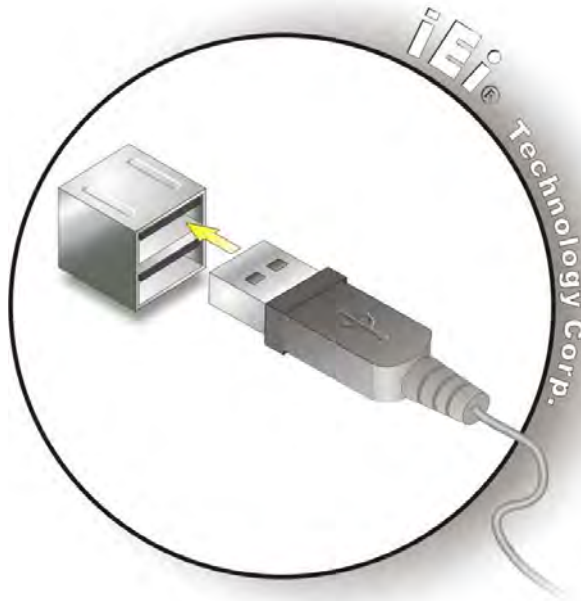

Figure 4-7: USB Connector
- Step 1: Insert a USB Series "A" plug.** Insert the USB Series "A" plug of a device into the USB Series "A" receptacle on the external peripheral interface. See Figure 4-7.